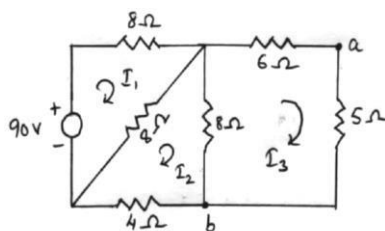

Fig.6
14. Find the currents I_1 , I_2 and I_3 for the circuit shown in Fig.6. Also find potential difference between a and b.